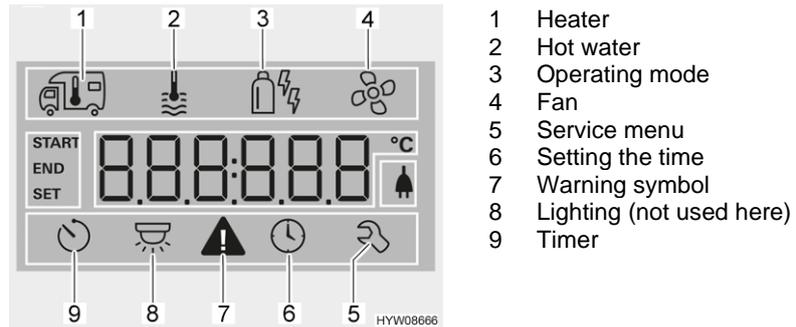

Fig. 79 Display (operating unit)
- Turn rotary push button (Fig. 78,6) until the heater menu symbol (Fig. 79,1) flashes.
- Turn rotary push button (Fig. 78,6) until the hot water menu symbol (Fig. 79,2) flashes.
- Turn rotary push button (Fig. 78,6) until the menu symbol operating mode (Fig. 79,3) flashes.
- Turn rotary push button (Fig. 78,6) until the fan menu symbol (Fig. 79,4) flashes.
- Turn rotary push button (Fig. 78,6) until the timer menu symbol (Fig. 79,9) flashes.
- Press rotary push button. The timer is activated. The timer symbol (Fig. 79,9) flashes when the timer is programmed and active.
The warning symbol (Fig. 79,7) flashes in the event of a warning. The heater continues to operate. In the event of only a temporary fault, the warning symbol goes out automatically.